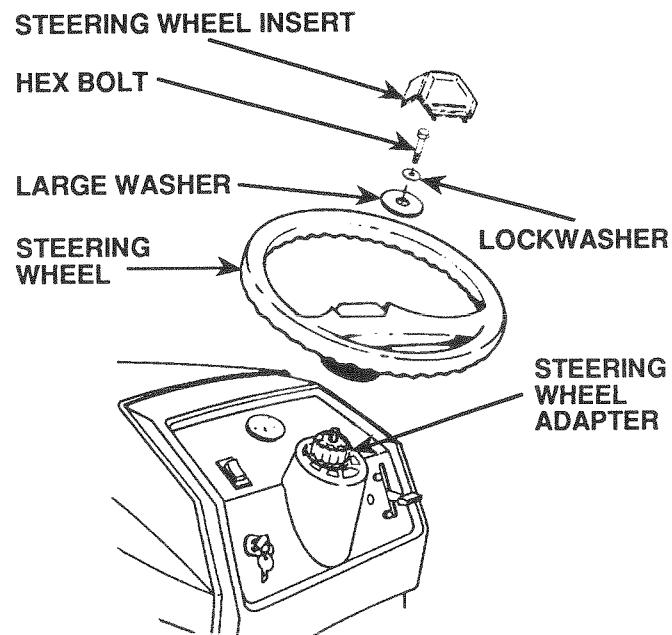

FIGURE 7
- a. Use a 9/16" wrench to remove hex bolt, lockwasher and 2-3/8" diameter washer from Steering Column (Fig. 7)
- c. Secure Steering Wheel to Steering Shaft using Hex Bolt, Lockwasher and 2-3/8" diameter Washer (fig. 7).